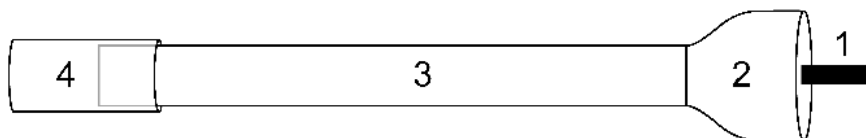

Figure IV-1: Diagram of propane burner parts
Starting from the rear of the burner in Figure IV-1, the fuel gas supply (1) enters the burner, where it terminates in a small hole known as the orifice. The pressurized gas blows into the venturi (2), drawing in combustion air with it. On some burners, a choke (not pictured) is added to the inlet of the venturi to control the amount of air mixing with the fuel. The fuel and air mix and stabilize in the burner tube (3), and burn inside the flare (4), which has a pressure step between it and the burner tube to hold the flame. In a furnace, the inside of the tuyere is commonly made to act as a burner's flare, as a steel flare would melt or oxidize over time, damaging the refractory from the fluxing action of the oxide. When the burner is being used in free air, a steel or iron flare is needed to hold the flame.